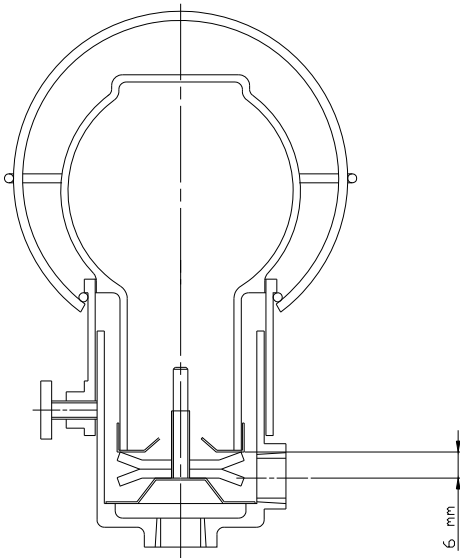

Figure 5.6
- b) Release thumb screw and remove bottle. Establish a measurement from the centre line of the oiler connection in bearing housing to the upper cross arm of 6 mm (0.24 in.); this can be obtained by completely screwing down the lower arm as illustrated on figure 5.6.